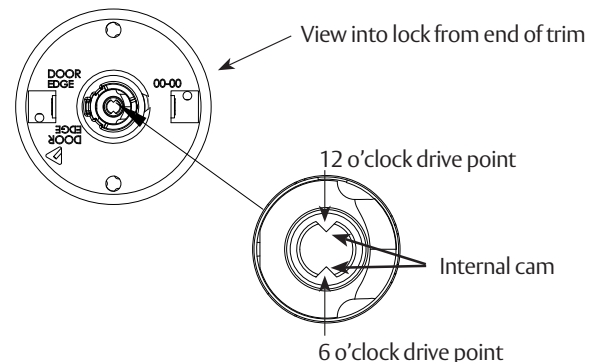

Figure 15
- Use a flat blade screwdriver to rotate cam until the driver points are in a 6 and 12 o'clock position (See Figure 15 on next page).
With driver points at 6 and 12 (See Figure 15), rotate key 45° in either direction and slide lever on over the lever catch. Confirm the lever will not pull off.
1. Remove cylinder lever(s) to view internal cam (See Figure 15).